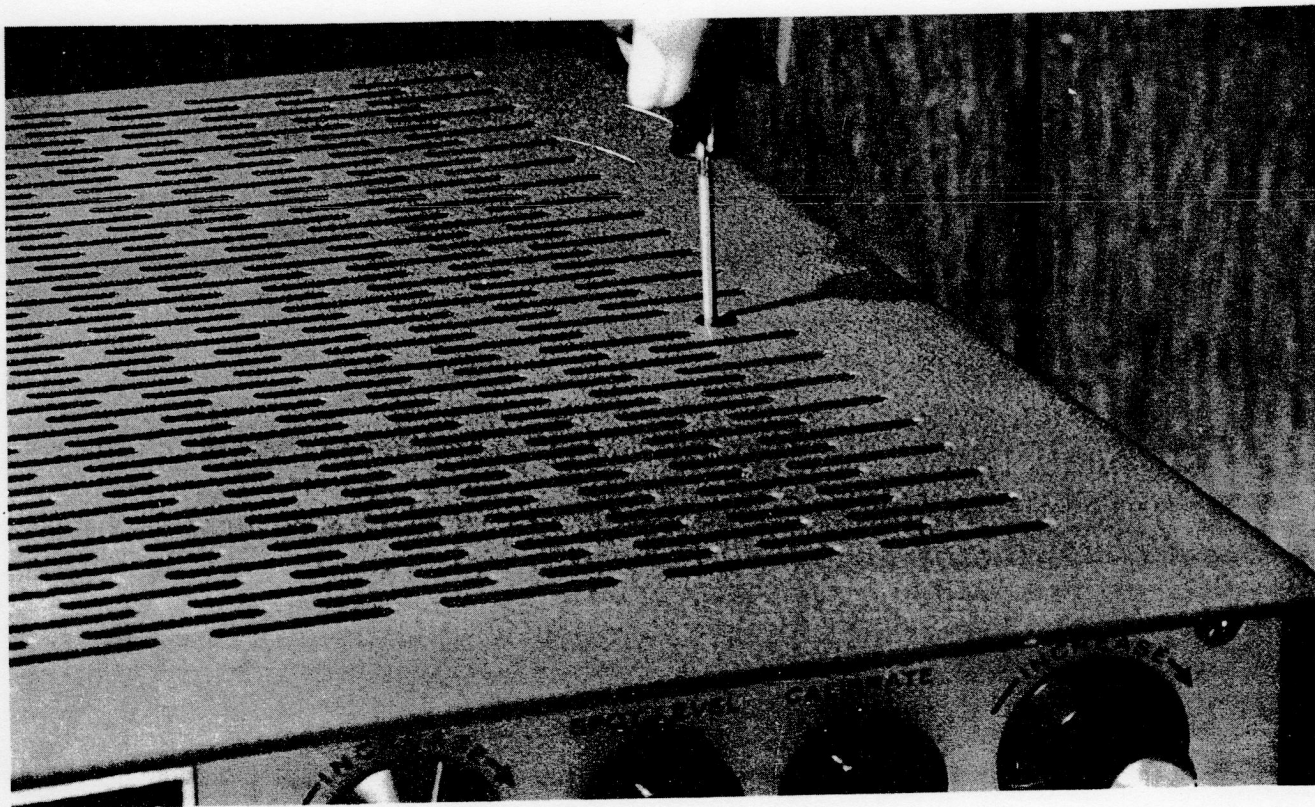

Figure 2-3. Capacitor C30 Location
c. Insert a small screwdriver through the special cut-out on the top right-hand side of the Model CX7 cover (refer to Figure 2-3 for exact location) and adjust capacitor C30 for a zero beat. This is best accomplished when WWV is transmitting a steady carrier. The zero beat is caused by 150th harmonic of the internal standard and the carrier of WWV.